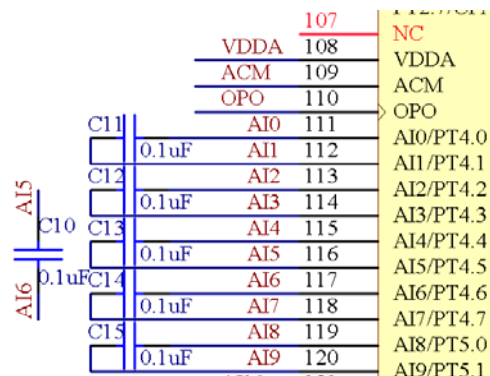

Figure 26
- ◆ C10~C15: Filter capacitor, shown as Figure 26